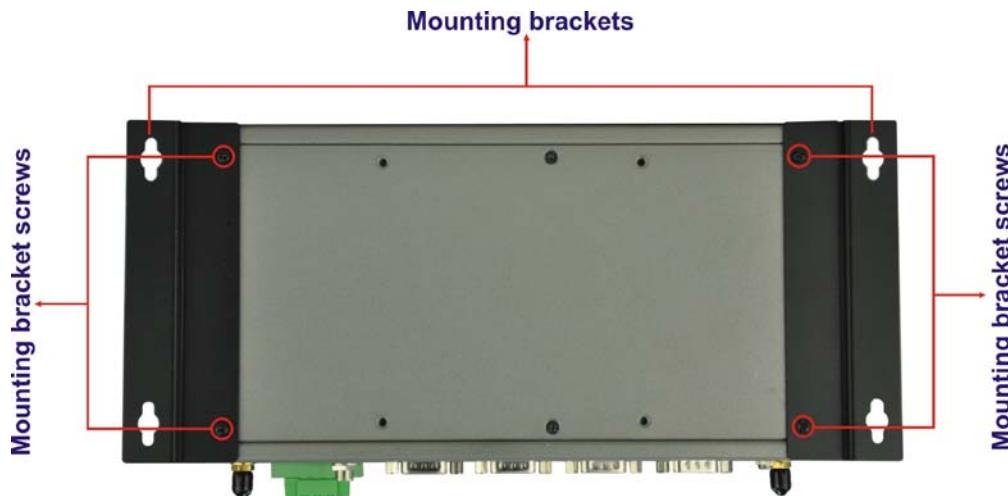

Figure 3-5: Mounting Bracket Retention Screws
Step 3: Secure the brackets to the system by inserting two retention screws into each bracket as illustrated in **Figure 3-5**.
To have the best system heat dissipation, please make sure to face the I/O panel downward (**Figure 3-5**) when mounting the system.